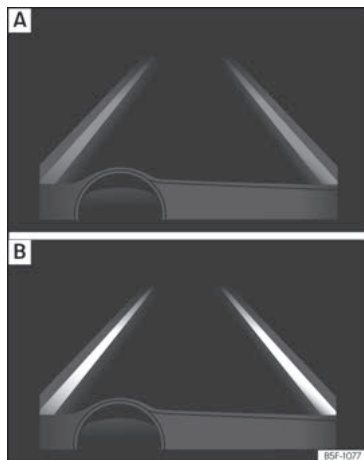

Fig. 278 On the instrument panel display: Indication on the Lane Assist system display (example 1).
- The system is active, but not available, either because the minimum speed has not been reached or because the lane lines are not recognised »» Fig. 278 A.
- The system is active and available, both lane lines are recognised. The steering angle is not being corrected at this moment »» Fig. 278 B.